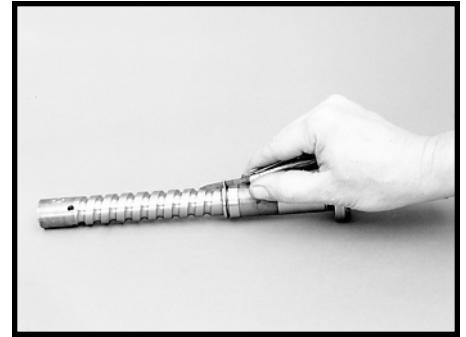

Figure 81
39. Remove and discard the worm shaft seal ring (18). Then, remove and discard the worm shaft "O" ring (17) from the worm shaft/input shaft (16). SEE FIGURE 81.